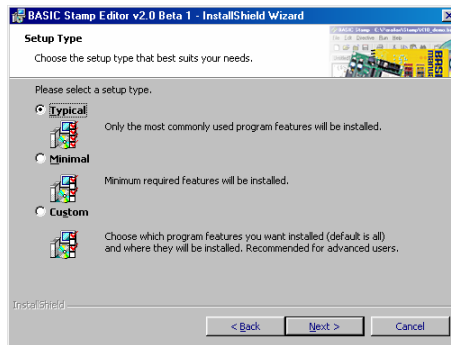

Figure 1-19
- ✓ Select *Typical* for your setup type as shown in Figure 1-19.